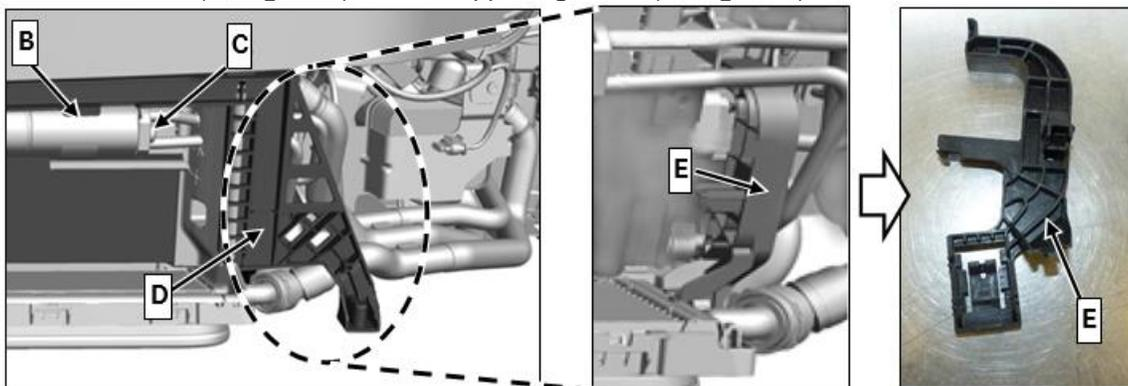

Figure 2
5. Unscrew the screw (**C, Figure 2**) at the receiver drier (**B, Figure 2**), then remove the holder for the refrigerant lines at the receiver drier (**B, Figure 2**).
6. Remove bracket (**E, Figure 2**) behind supporting frame (**D, Figure 2**).